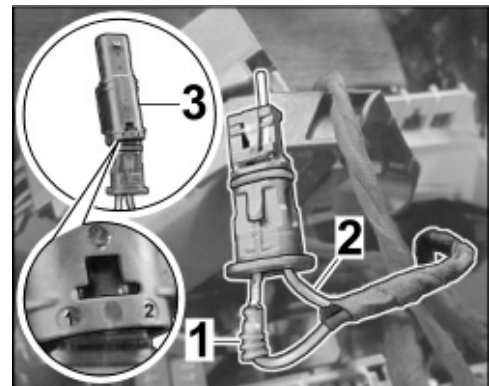

Figure 27
- 2.5.2 Connect CAN lines with pin contact/single-wire seal (wire harness for engine noise control unit/pulse sender) in the pin connector socket as follows (⇒ *Figure 27*):